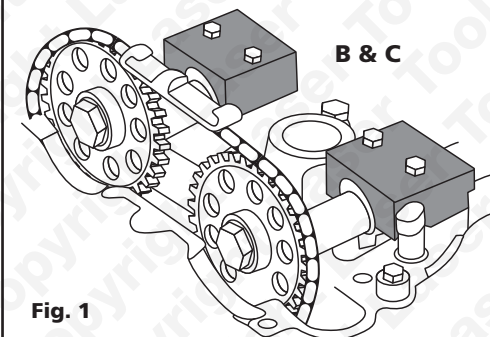

Fig. 1
N.B: If camshaft sprockets require loosening the bolts should be replaced (see manufacturer data) Refer to Fig. 1